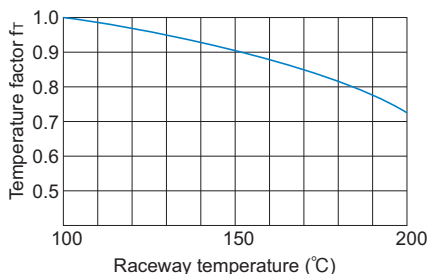

Fig.3 Temperature Factor ( $f_T$ )
- $f_T$  : Temperature factor (see Fig.3 on **A5-6**)
If the temperature of the environment surrounding the operating model ST exceeds 100°C, take into account the adverse effect of the high temperature and multiply the basic load ratings by the temperature factor indicated in Fig.3.